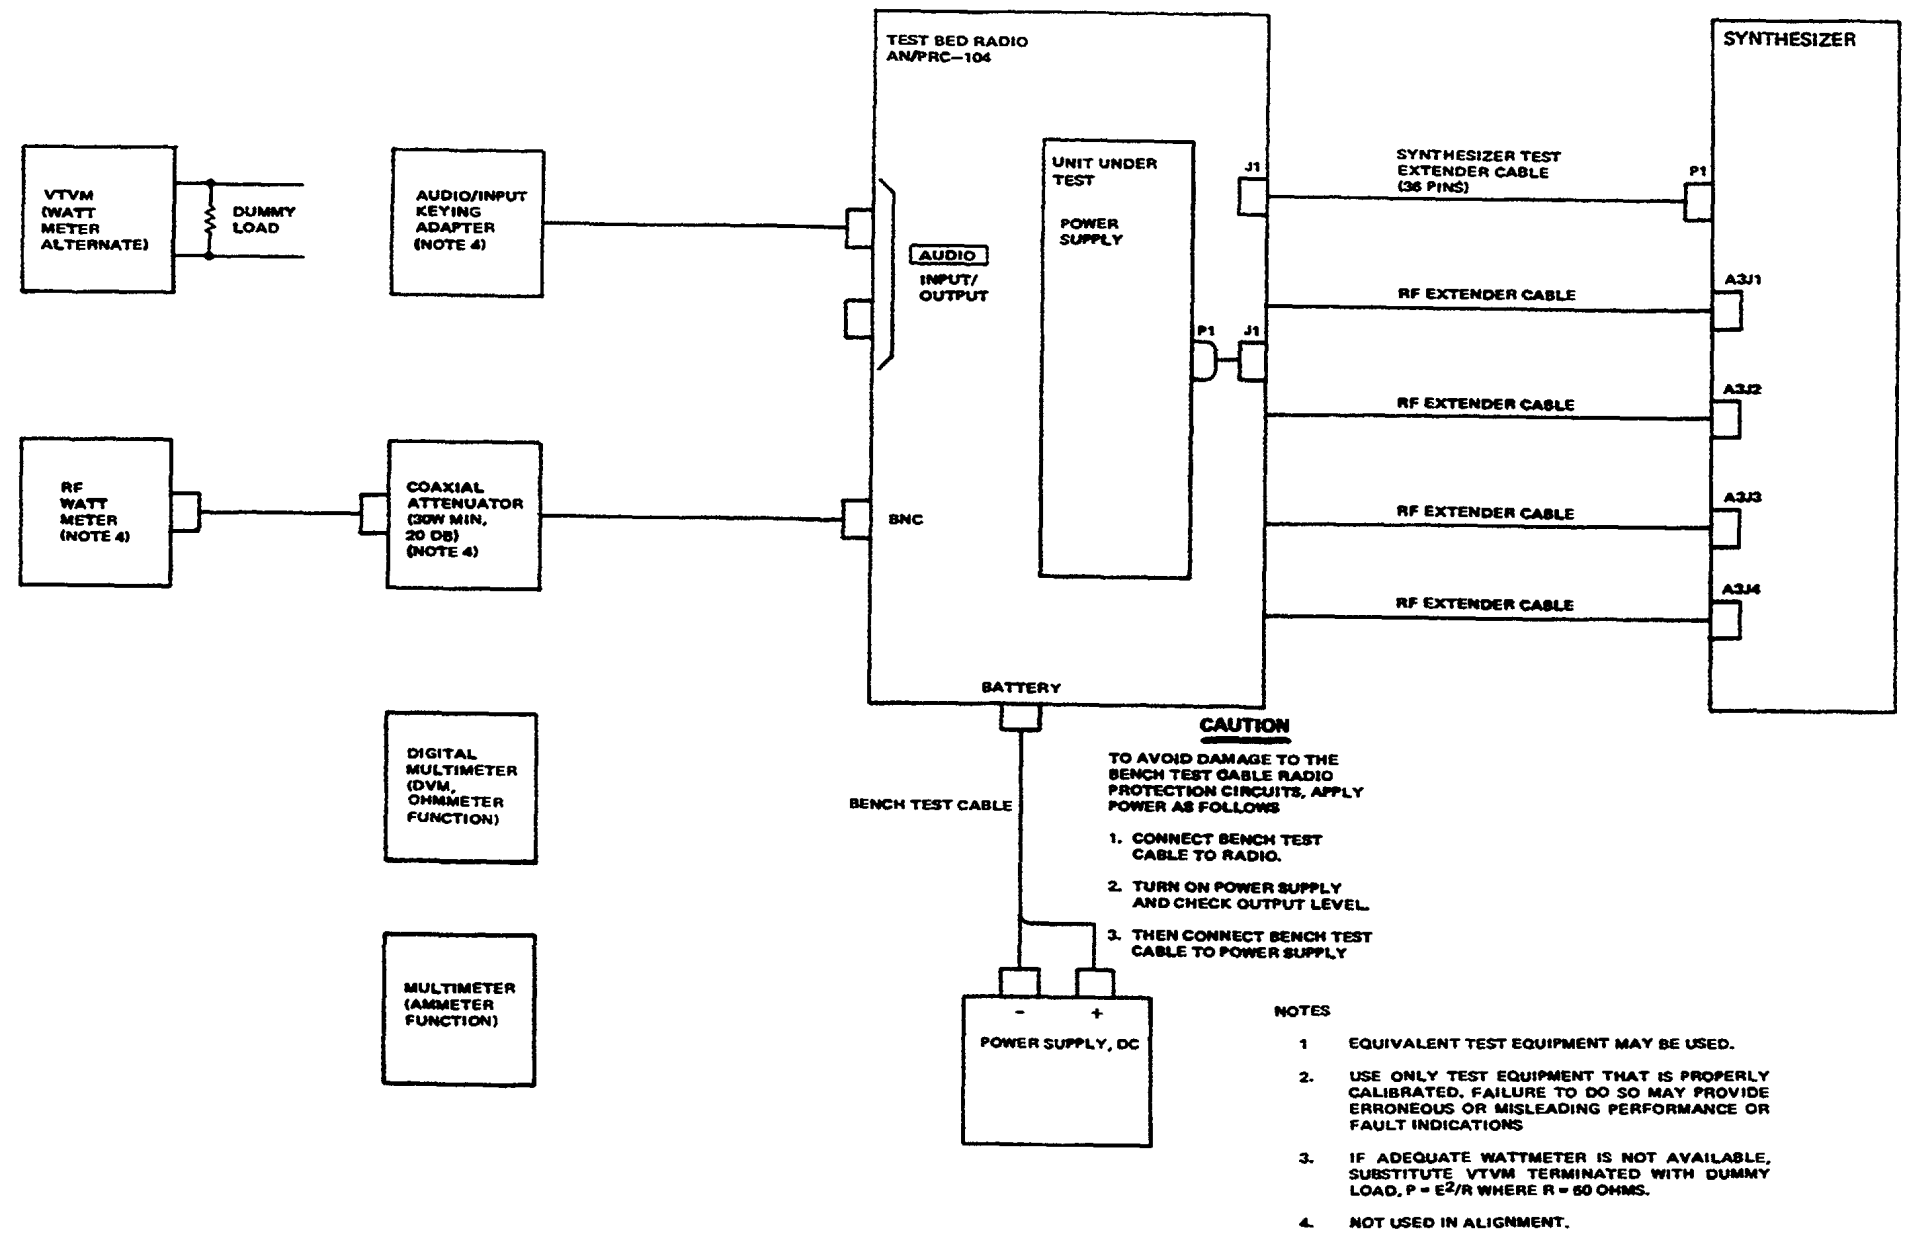

Figure 7-3. Power Supply A1A5 Performance Test and Alignment Setup
3. Except for the keying adapter and watt meter, connect the test radio, cables, adapters and test equipment as shown in figure 7-3. Set the power supply (7 amp) to +26.5v.